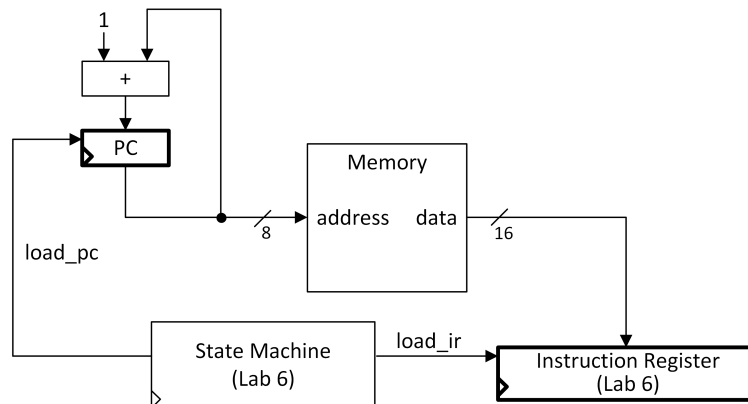

Figure 1: Adding an instruction memory and program counter (simplified).
Figure 1 illustrates a *simplified* view of how one might interface memory containing instructions to the components from Lab 6. Each memory location holds 16-bits versus 8-bits for ARMv7. Each Simple RISC Machine instruction is also 16-bits long and thus occupies one memory location. A program counter (PC) is connected to the address input of the memory. The PC contains the address of the next instruction to execute and is implemented with a register with load enable. The memory contains 256 memory locations thus the program counter is  $\log_2(256) = 8$ -bits wide. Note that, unlike in ARMv7, the PC in the Simple RISC Machine architecture is not a register inside the register file. The PC is updated when the load enable
input, `load_pc`, is set to 1 by the state machine. In Figure 1 the PC is updated by adding 1 to compute the address of the next instruction. The bonus adds branches enabling the PC to change by other values.